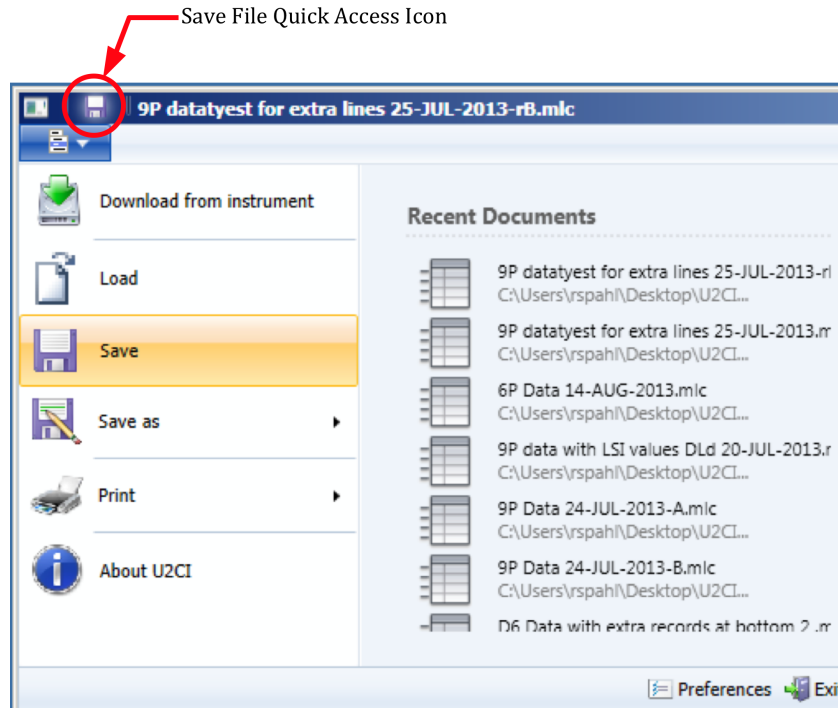

Figure 40
- Click the Quick Access "**SAVE**" button at the top left corner of the active Data Window (Figure 40).
- Selecting the "**SAVE**" command under active Data Window's File Control Menu (Figure 40).